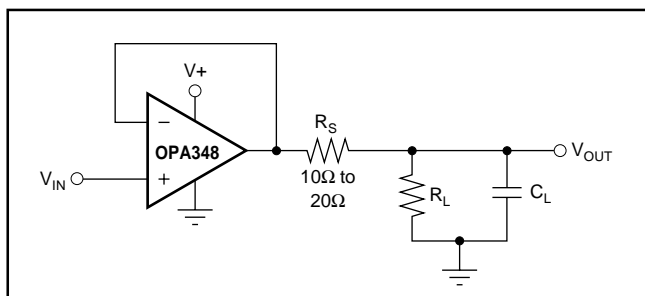

FIGURE 5. Series Resistor in Unity-Gain Buffer Configuration Improves Capacitive Load Drive.
The OPA348 in a unity-gain configuration can directly drive up to 250pF pure capacitive load. Increasing the gain enhances the amplifier’s ability to drive greater capacitive loads (see the typical characteristic “Small-Signal Overshoot vs Capacitive Load”). In unity-gain configurations, capacitive load drive can be improved by inserting a small (10Ω to 20Ω) resistor, R_S , in series with the output, as shown in Figure 5. This significantly reduces ringing while maintaining DC performance for purely capacitive loads. However, if there is a resistive load in parallel with the capacitive load, a voltage divider is created, introducing a Direct Current (DC) error at the output and slightly reducing the output swing. The error introduced is proportional to the ratio R_S/R_L , and is generally negligible.